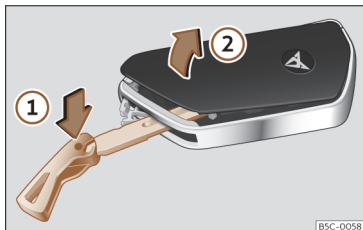

Fig. 73 Vehicle key: opening the battery compartment cover.
- Insert the key blade into the slot >>> **Fig. 73**, press it in the direction of arrow ① and detach the cover by levering it ②.